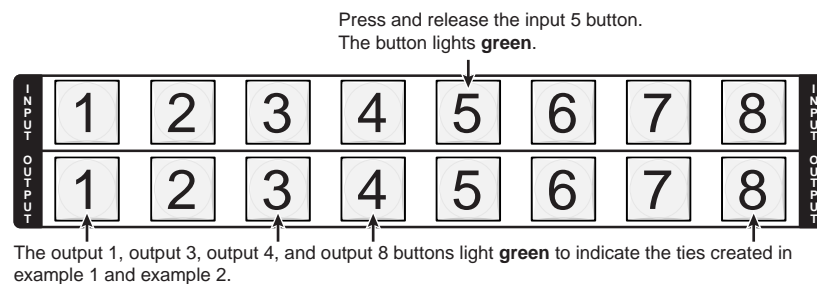

Figure 3-17 — Select an input
2. Press and release the input 5 button (figure 3-17).